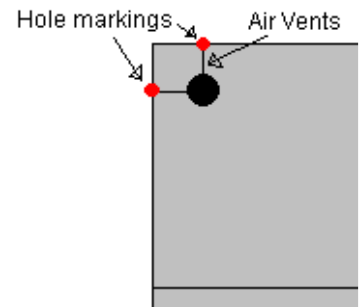

Figure 3 - Marking the Registration Drill Holes to transfer to bottom side
- In order to know where to drill your bottom registration nubs, use a marker to mark on the outer edges of your upper set (see Figure 3) where your hole is.